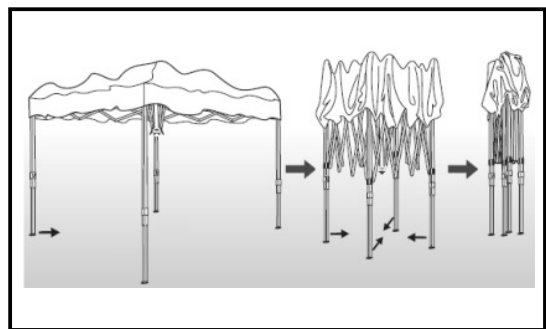

Fig. 12
4. Step out of the canopy. Gently lift the extendable awning bars, remove the canopy corners, and restore the bars back in the tubes. Gently lift one leg and push inward until the frame is folded. (*see Fig. 12*)